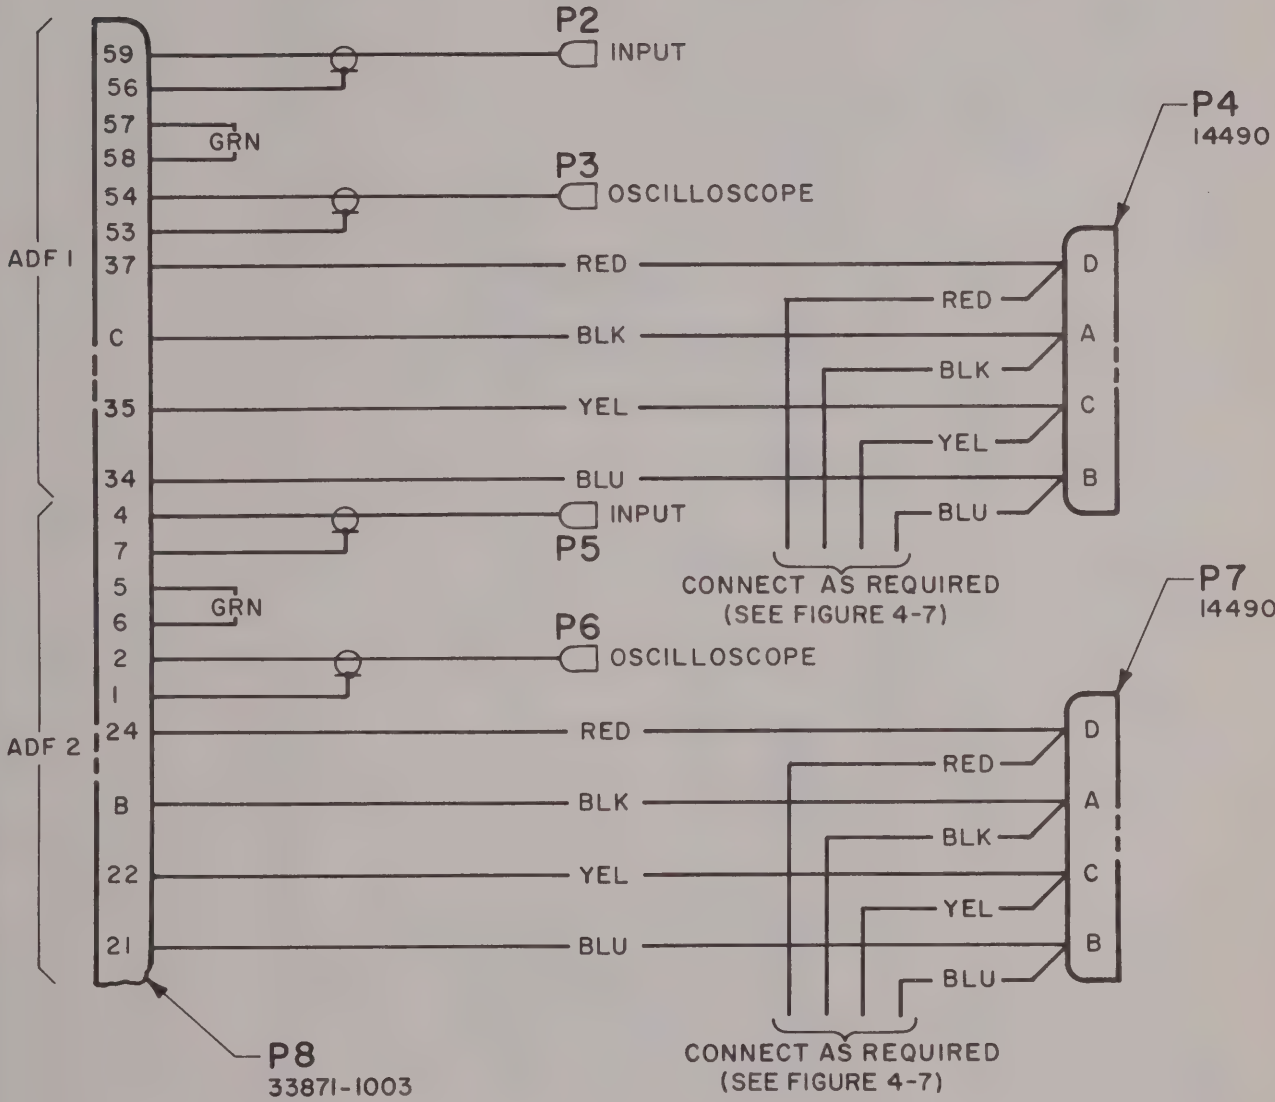
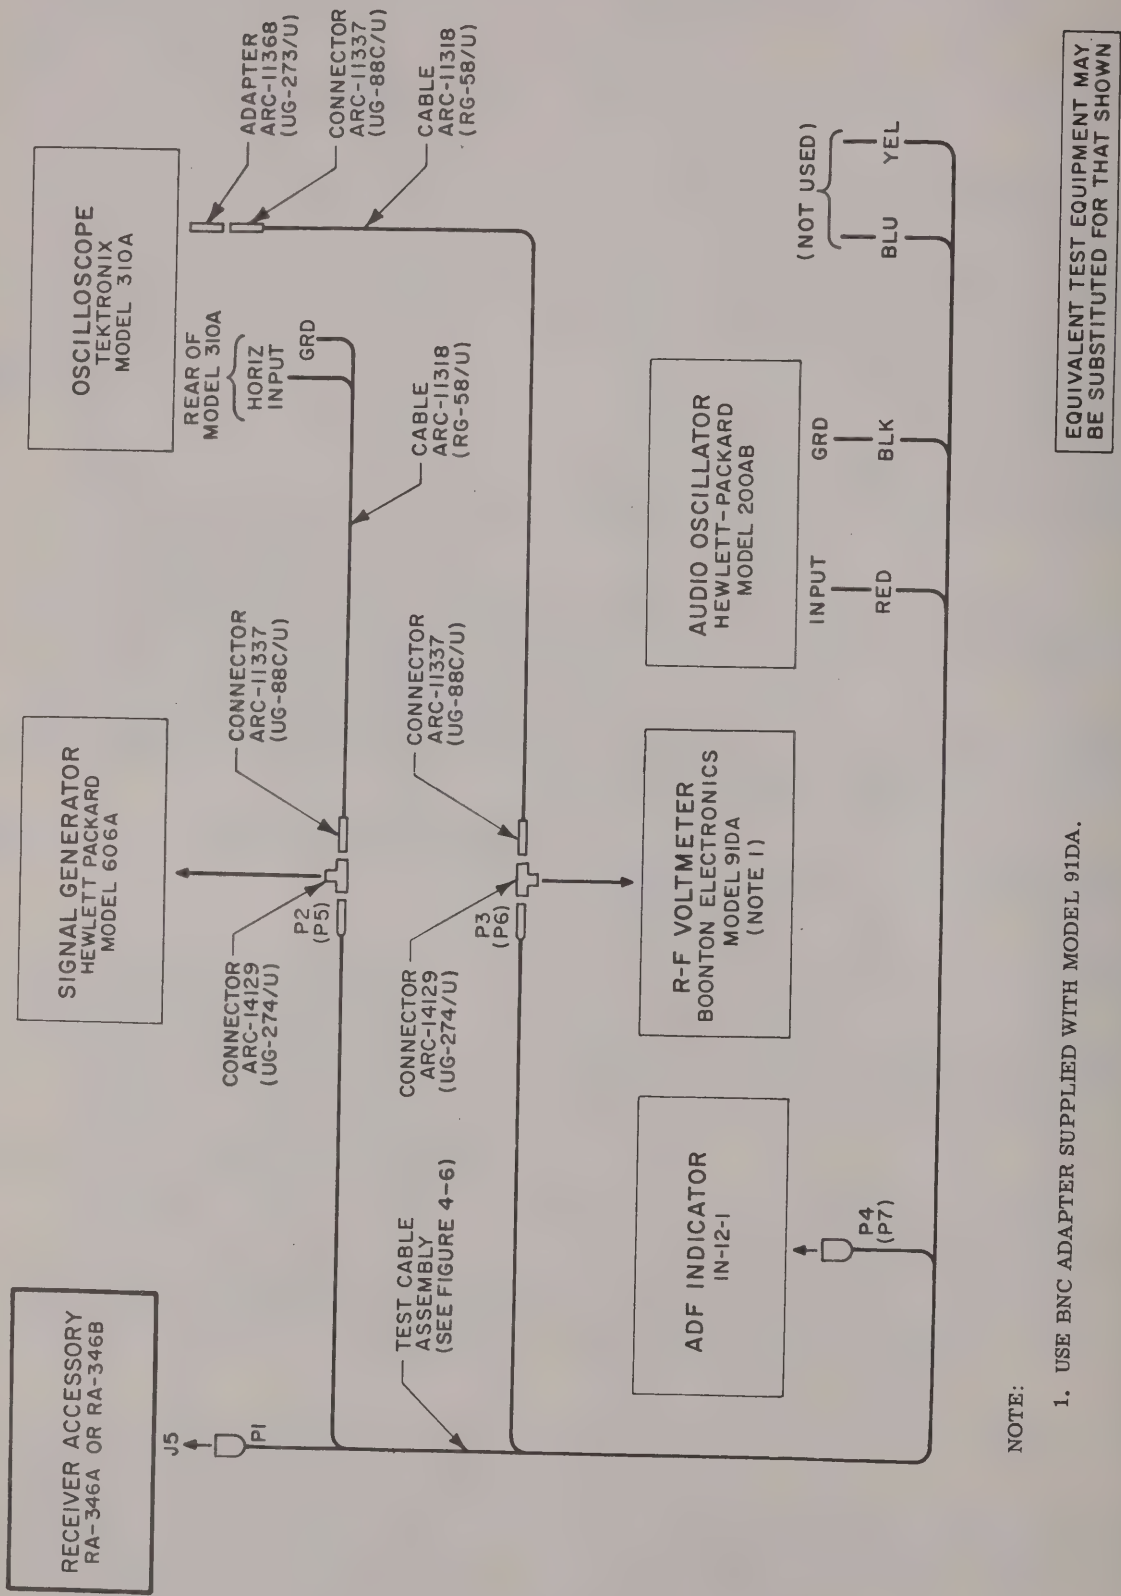
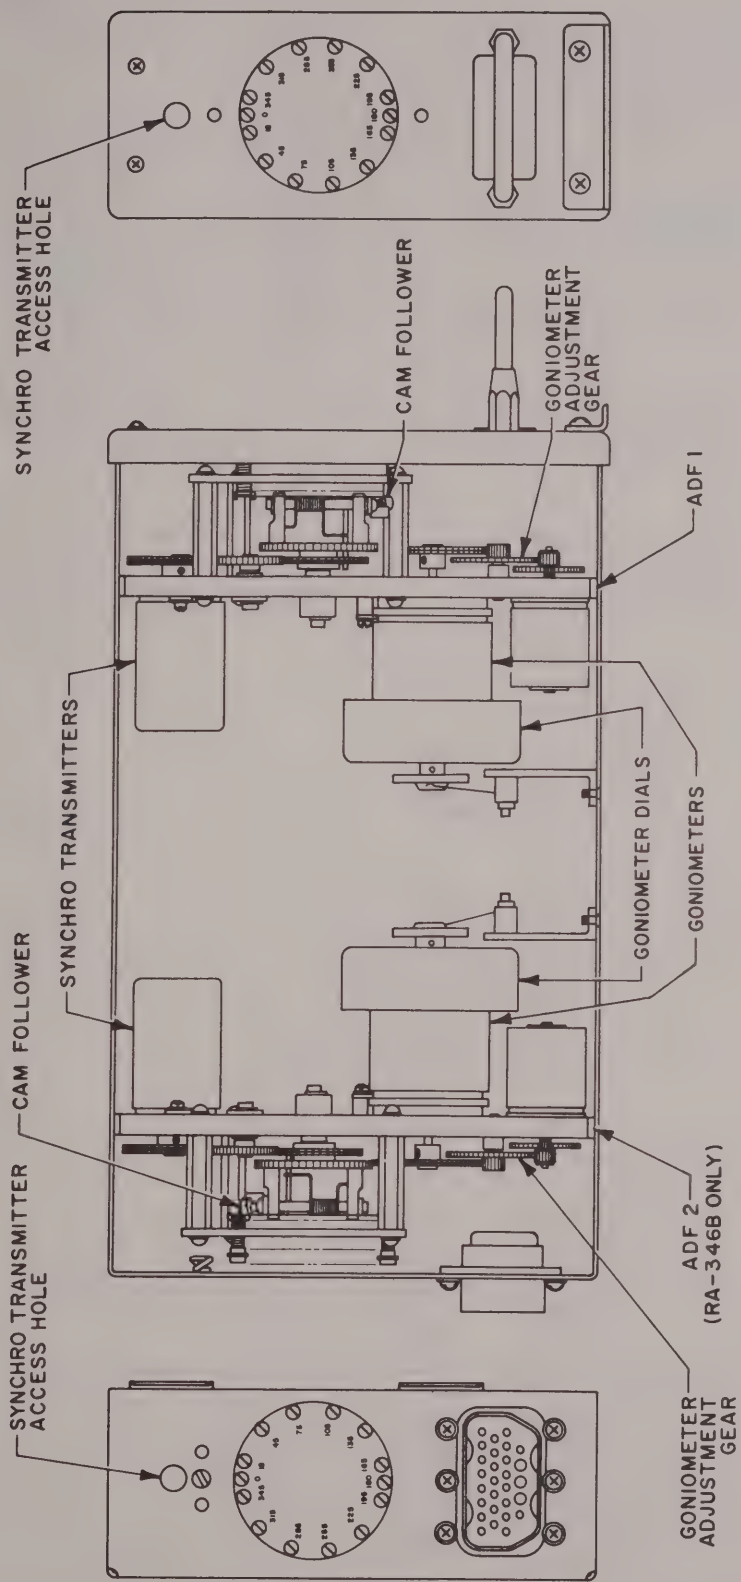

Figure 4-6. Cable Assembly for Bench Testing RA-346A or RA-346B Receiver Accessory, Wiring Diagram
Figure 4-7. RA-346A or RA-346B Receiver Accessory, Bench Test Interconnection Diagram
Figure 4-8. RA-346A or RA-346B Receiver Accessory, Alignment Points
RA-346A and RA-346B. If the RA-346A or RA-346B Receiver Accessory has been disassembled, the unit must be aligned and adjusted before reassembly is completed. A test cable (Figure 4-6) must be fabricated for interconnecting the equipment as shown in Figure 4-7. Alignment points for the receiver accessory are shown in Figure 4-8. Reassemble the unit except for the cover (1, Figure 6-4) and proceed as follows:
Step 1. Interconnect equipment as shown in Figure 4-7.